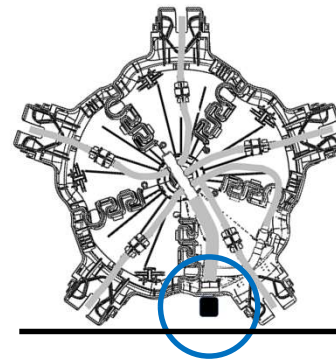

Figure 1b
- b) Carefully lower and rest the unit on its side, making sure that the hose connection is at the bottom (Figure 1b)